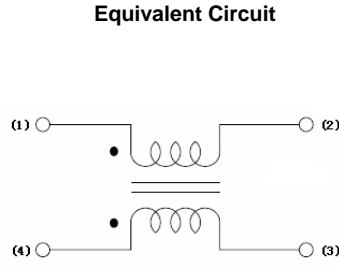

Fig.4-4
- g) Equivalent circuit: See **Fig. 4-4**.